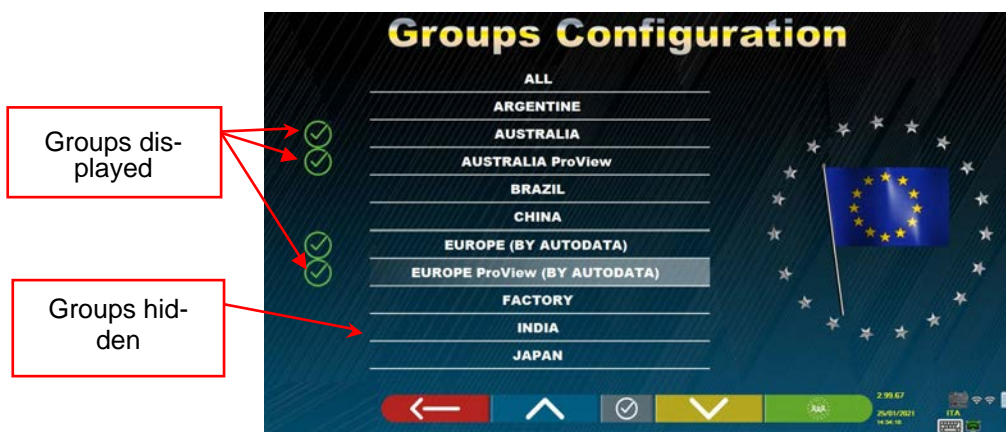

Figure 14
**Configuration:** the program displays the screen shown in - Figure 14 -